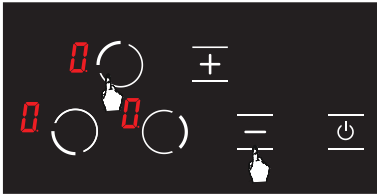

Figure 22
2. Press upper left hob selection key ( **L** ) and minus key ( **-** ) simultaneously. (see Fig. 22) You shall hear a short warning signal at this time. Then, remove your fingers from the stove control panel.